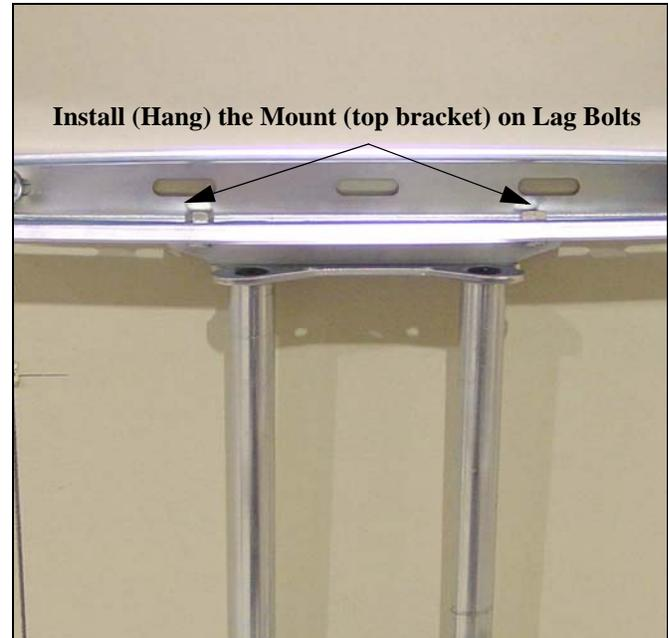

Figure 2: Install the Mount on Lag Bolts
1. With an assistant, lift and hang the mount on the two lag bolts and washers previously installed on the wall. (See Figure 2:).